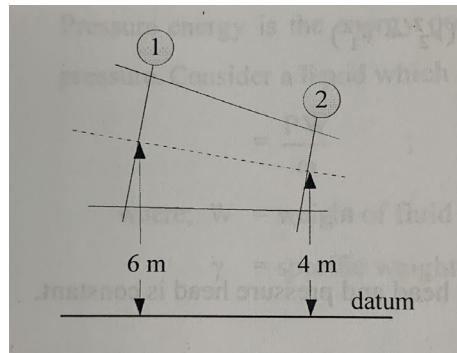

Figure B1(b) : Distance from datum / *Rajah B1(b) : Jarak dari datum*
- (c) Figure B1(c) shows an inverted differential manometer connected to pipe A and pipe B containing water. Calculate the pressure difference between pipe A and B.